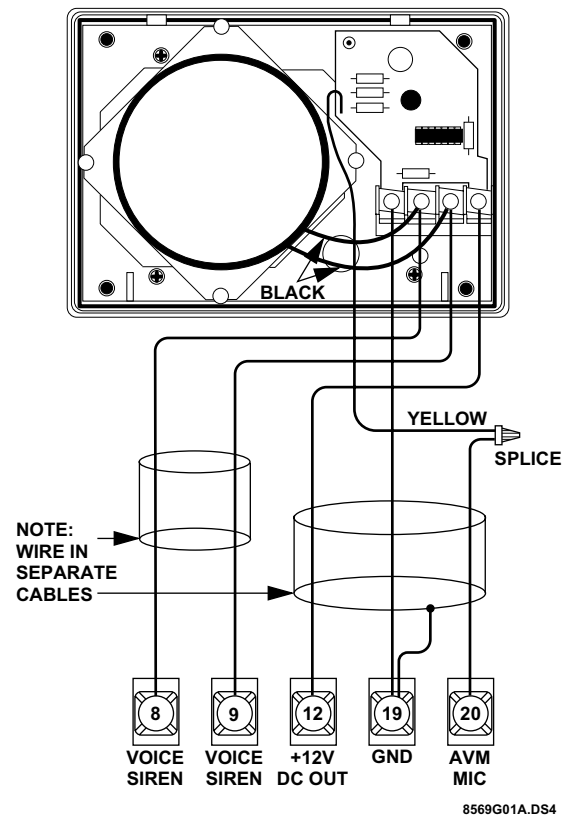

Figure 4 AVM Wiring Connections
- Connect terminals as shown in figure 4. Use 18-gauge wire for speakers and 22-gauge for +12V, ground, and microphone.